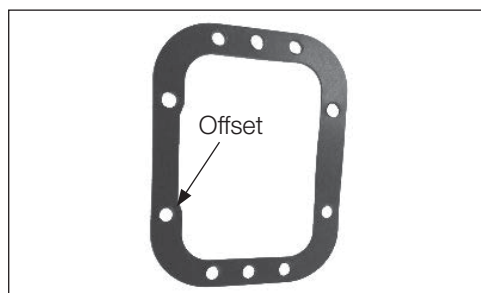

Figure 11
2. Offset to be towards the rear of the transmission (**Fig. 11**).